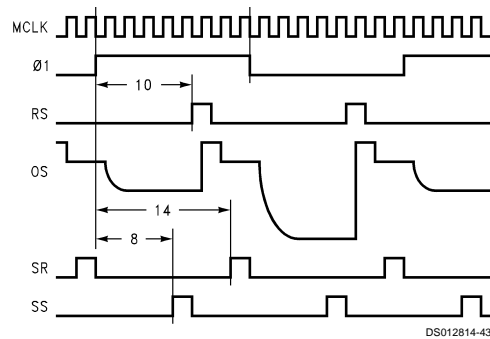

FIGURE 35. Typical Even/Odd Timing
The Mode is set to Even/Odd, RS Pulse Width is set to its minimum value, and RS polarity is positive. The timing, shown in Figure 35, is determined by the RS, SR, and SS registers. The RS pulse position (RS) is set to 10, dividing the pixel period so that the *signal* portion is available for the first 5 MCLKs following a  $\phi1$  clock edge and the *black reference* portion appears during the last 2 MCLKs (following the 1 MCLK wide reset pulse). Sample Reference (SR) is set to 14, so it samples the black reference just before the next  $\phi1$  clock edge. Sample Signal (SS) is set to 8, so it samples the black reference just before the next reset pulse. These values can be adjusted to account for differences in CCDs, CCD data delays, settling time, etc., but this is often not necessary.